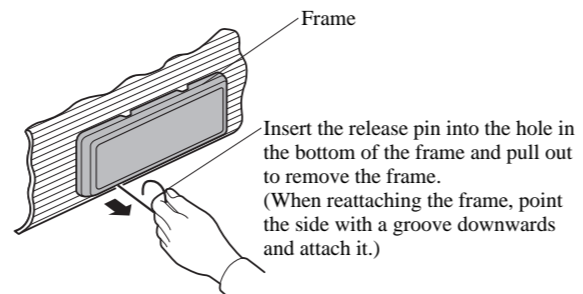
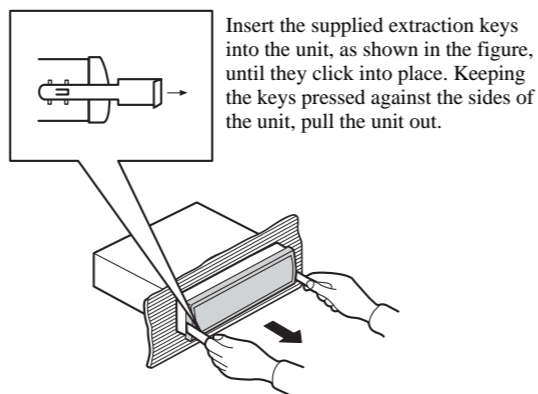

Fig. 9
Fig. 10
**Removing the Unit (Fig. 9) (Fig. 10)**